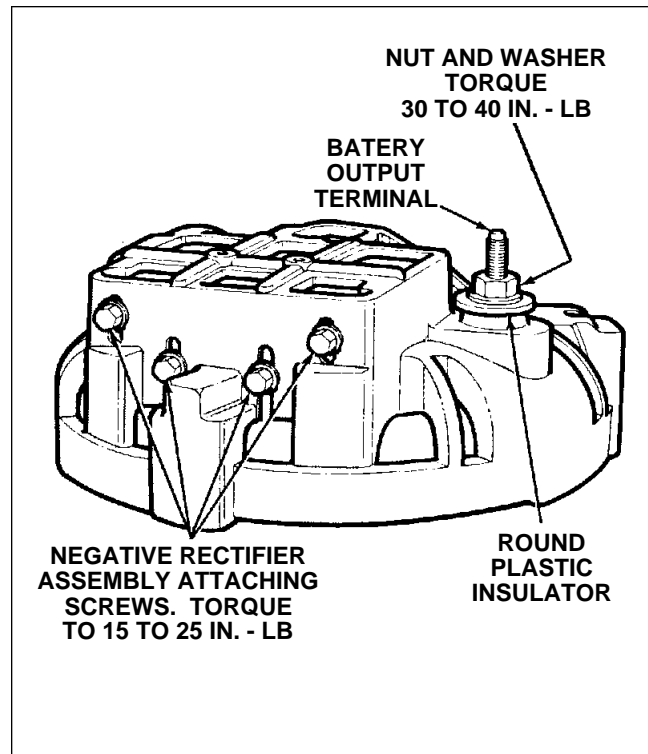

Figure 11-39. Installation of Battery Output Insulator
- l. Turn end shield over, install round plastic insulator over battery terminal with flat side up. Install nut and washer. Tighten to a torque of 30 to 50 inch-pounds. (Refer to figure 11-39.)